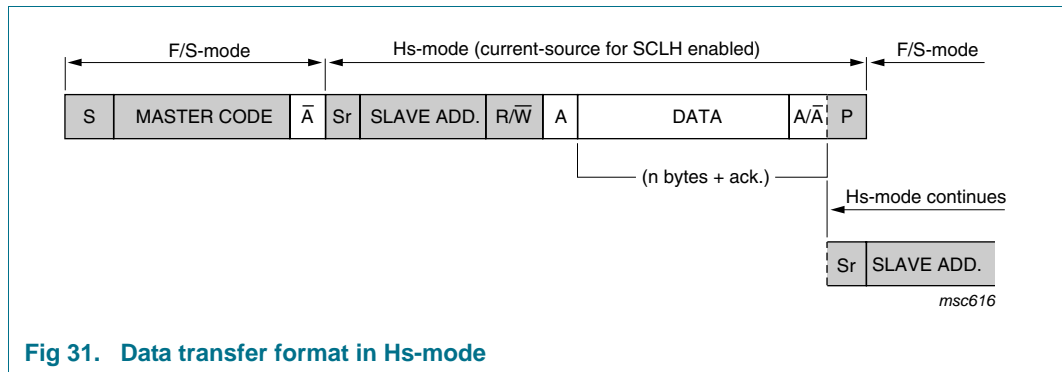
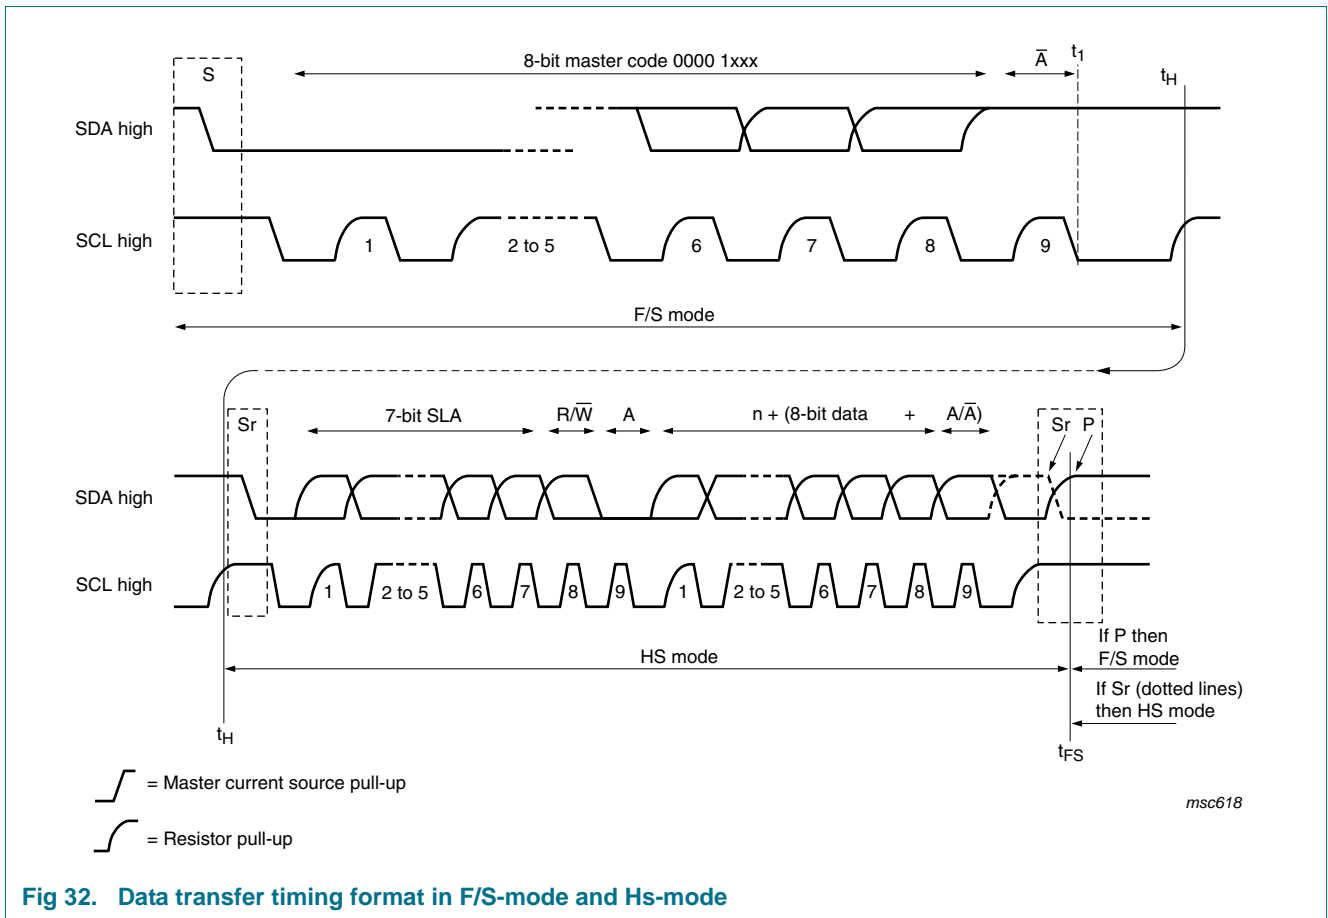

Fig 31. Data transfer format in Hs-mode
Fig 32. Data transfer timing format in F/S-mode and Hs-mode
The master code has two functions: it allows arbitration and synchronization between competing masters at F/S-mode speeds, resulting in one winner. The master code also indicates the beginning of an Hs-mode transfer. These conditions are shown in Figure 31 and Figure 32.
As no device is allowed to acknowledge the master code, the master code is followed by a not-acknowledge (A). After this \bar{A} and the SCLH line pulled up to a HIGH level, the active master switches to Hs-mode and enables at t_H the current-source pull-up circuit for the SCLH signal; see Figure 32.